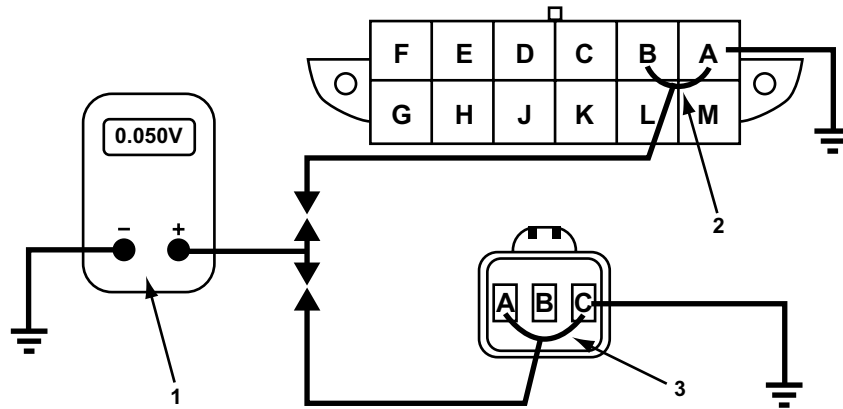

Figure A-5 Ground continuity for the ALDL connector
- The meter should read 50 millivolts (0.050 V) or less for a good ground (Figure A-5 on page 563).